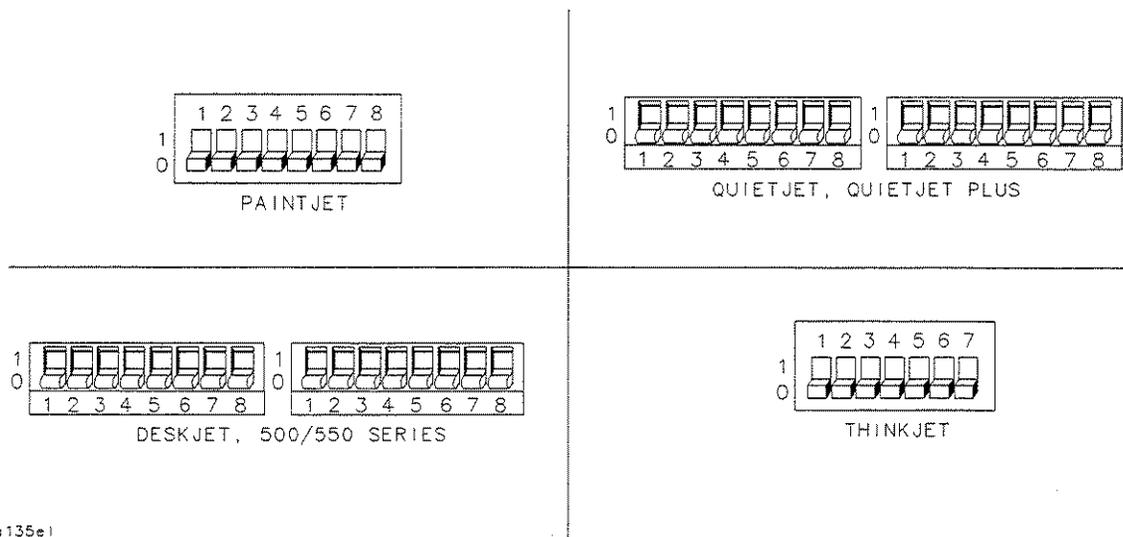

Figure 3
- 2 If your printer has configuration switches, now is the time to set them. See Figure 3 or refer to your printer's documentation for more specific information on your printer's configuration.